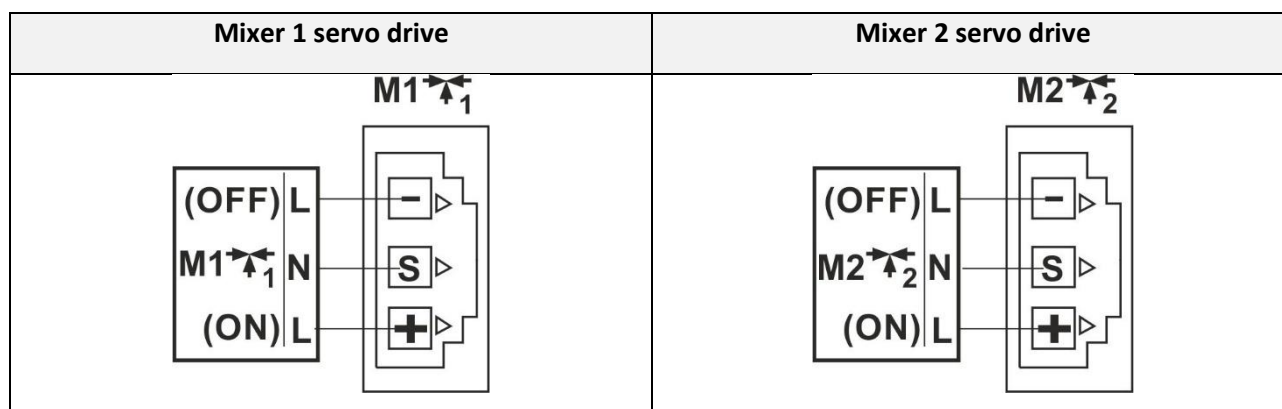

Figure 24. Wiring diagram of Mixer servo drive
- connect the Mixer drive with the controller via the connector on the left wall of the switchboard to the controller (see Figure 24) according to the technical documentation of the actuator manufacturer. Pay attention to the correct designation of the wires for opening and closing the valve.